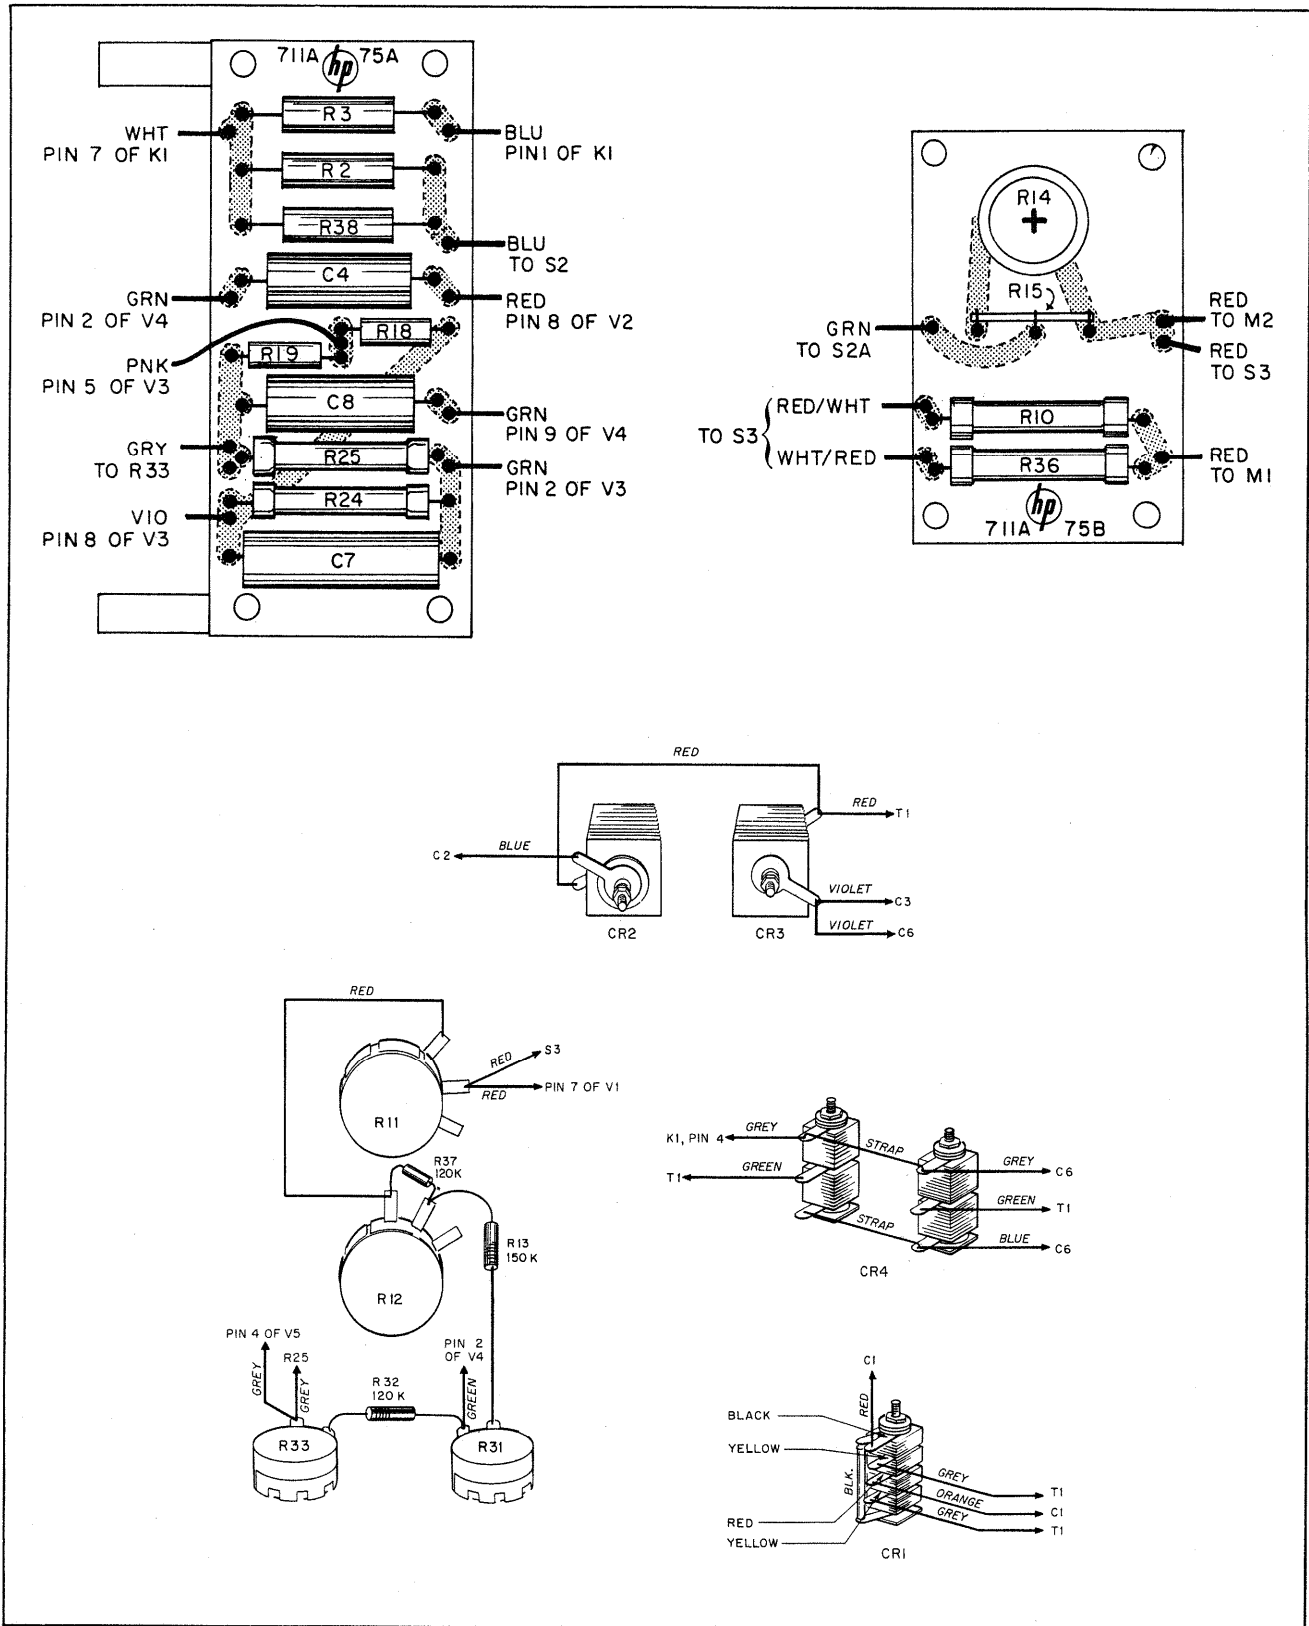
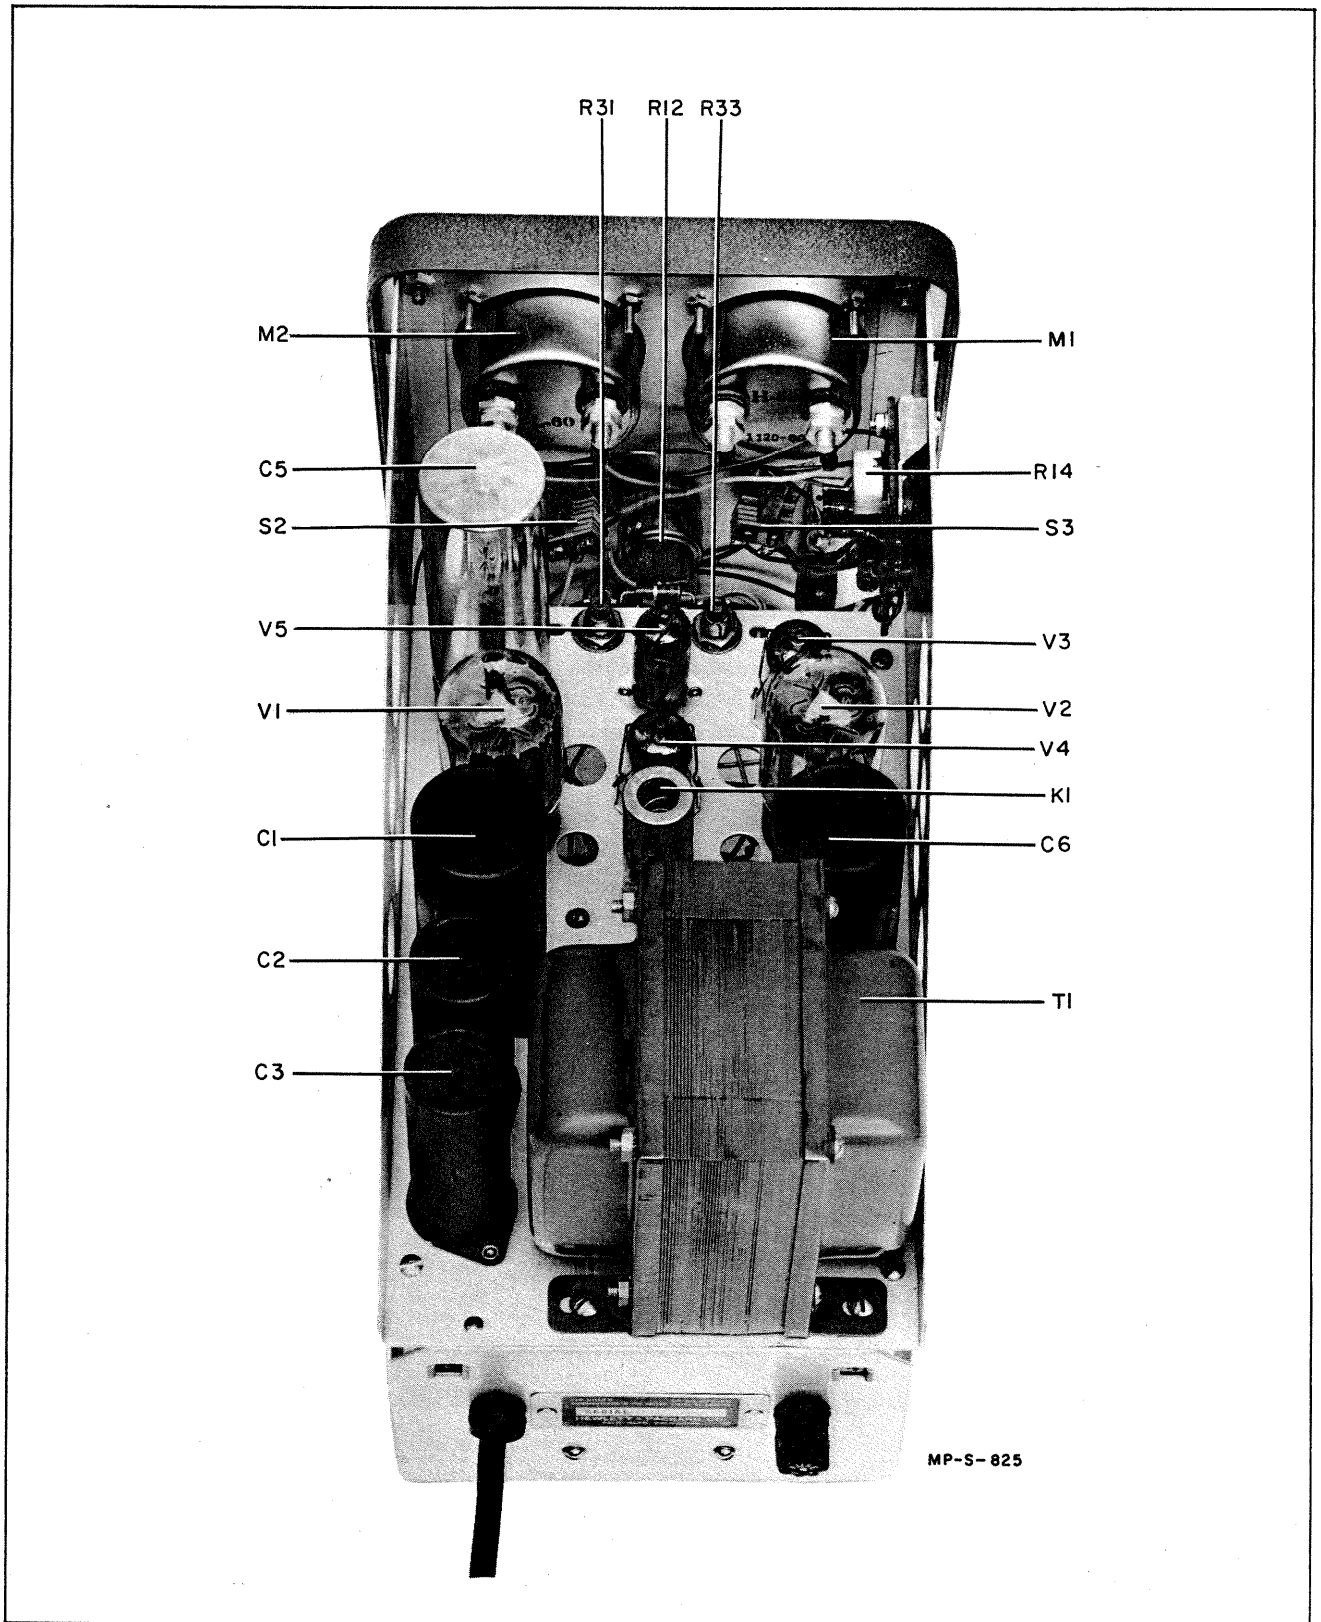
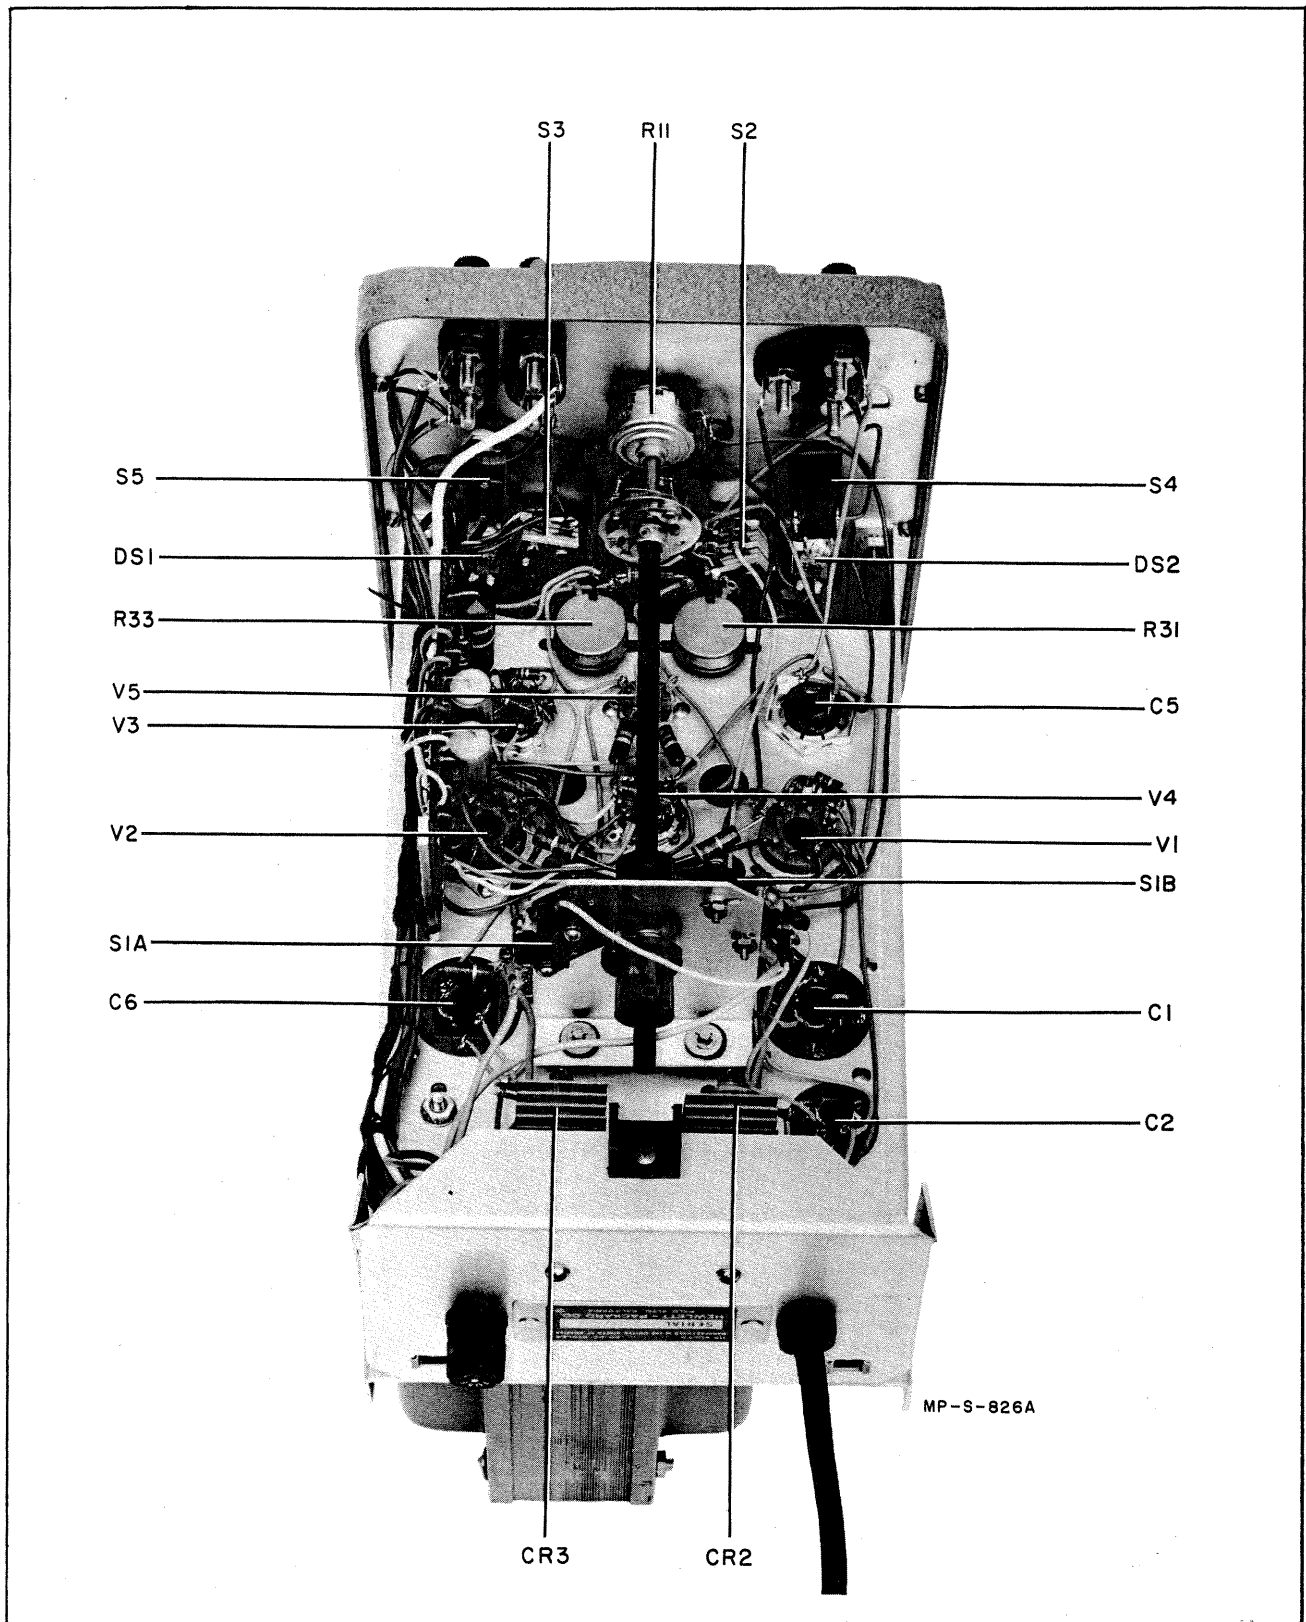

Figure 4-4. Model 711A Resistor Board and Rectifier Detail
Figure 4-5. Model 711A Top View Cover Removed
Figure 4-6. Model 711A Bottom View Cover Removed
A. VARIABLE RESISTOR R11. Connections to variable resistor R11 are indicated in Figure 4-4 and location of R11 on the chassis is shown in Figure 4-6.
To remove the defective R11 and install a new one, the instrument should be so placed that the bottom is upper-most. For convenience of maintenance personnel, all instructions in the following are with respect to the instrument in this upsidedown position. Front and rear are with respect to the control panel. Cams are identified in Figure 4-6.
- b. Solder leads to R11 terminals. Connections are shown in Figure 4-4.
B. VARIABLE RESISTOR R14. Variable resistor R14, which is part of the shunt network across milliammeter M2, is mounted on resistor board 75B. Connections to R14 are indicated in Figure 4-4, and the location of R14 on the chassis is shown in Figure 4-5.
Connections to the rectifiers are shown in Figure 4-4 and their locations on the chassis in Figure 4-6.
<p>b. Defective tube in main regulator. (CONT'D.)</p> <p>c. Potential applied to tube pins not of proper values.</p> <p>d. Relay K1 held operated.</p>	<p>(2) Check V1, V2 as follows:</p> <p>A. Check that no load is connected to dc output terminals.</p> <p>B. Remove one 6L6 and leave other in circuit. If trouble clears with one 6L6 out of circuit, replace that 6L6.</p> <p>c. Check dc voltage on pins of all tube sockets: should be within $\pm 10\%$ of those shown in Figure 4-7.</p> <p>d. Check that no load is connected to dc output terminals. Remove K1. If voltmeter indicates the removal of K1 has corrected the trouble:</p> <p>(1) Check contacts on switch S2 (Figure 4-5)</p> <p>(2) Check for open resistor R2.</p> <p>(3) Check K1 by substituting relay known to be good.</p>